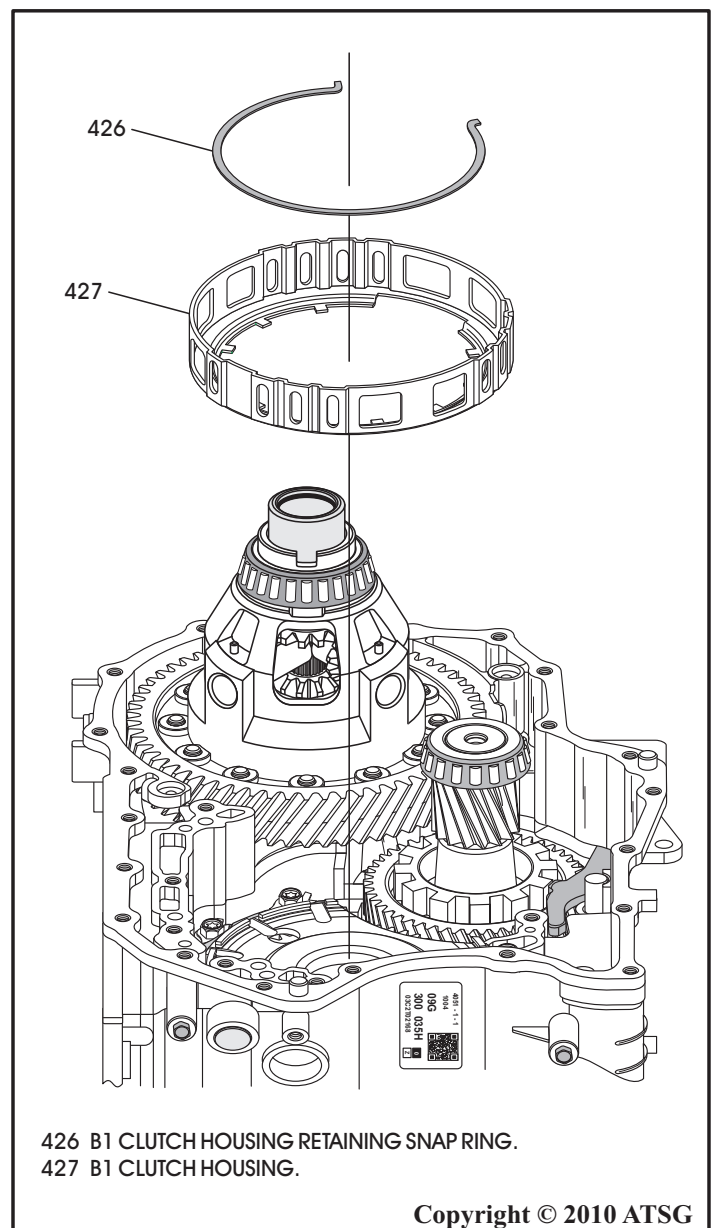

Figure 76
51. Remove the B1 clutch housing retaining snap ring, as shown in Figure 76, and remove the B1 clutch housing.
Note: This snap ring is identified by two small "turn-outs" at snap ring ends, as shown in Figure 76.